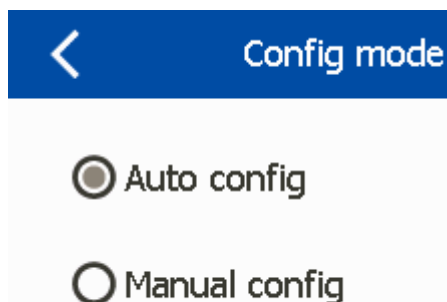

Fig. 81: Config mode
The 'Config mode' screen (Fig. 81) allows you to configure the sensors and actuators connected to a zone module and to have them automatically detected. If you have selected automatic mode, all actors and sensors connected to the zone module will be automatically detected and activated. This automatic configuration also allows you to deactivate individual sensors or actuators without while the system is in operation; no fault will be generated.
- ⇒ The 'Config mode' screen (Fig. 81) displays.